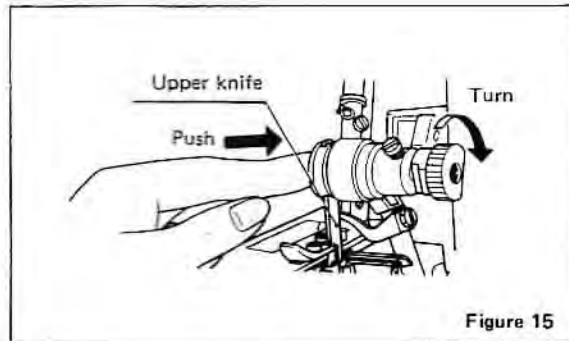

Figure 15
2. Push the upper knife holder to the right and turn the knife to the "up" position (Figure 15).
5. Push the upper knife holder with finger and turn the knife holder knob clockwise to bring the knife to "up" position (See Figure 15).